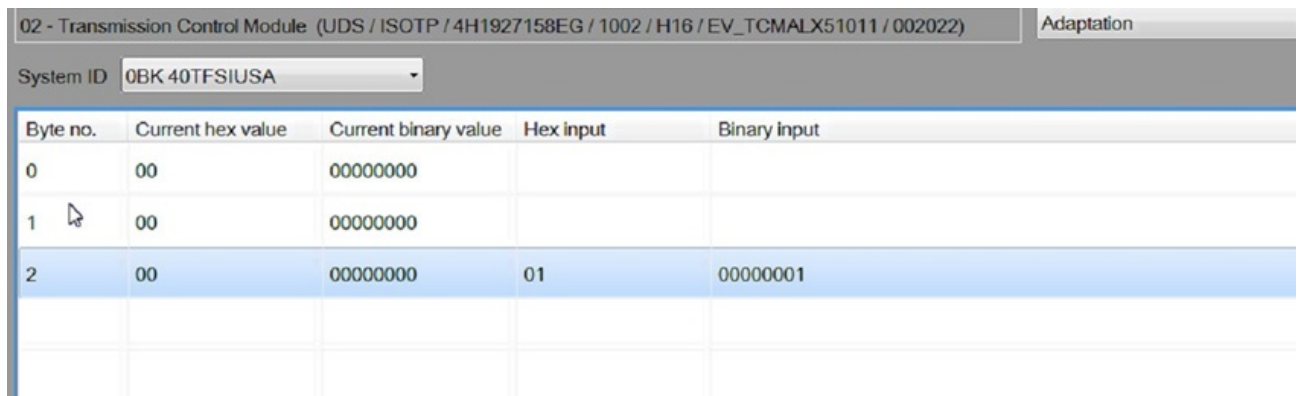

Figure 6. Coding changes ready to be made
10. The coding menu will now show the changes ready to be made in the row for Byte no. 2 (Figure 6), under “Hex input”. Select “Apply” on the bottom of the screen.